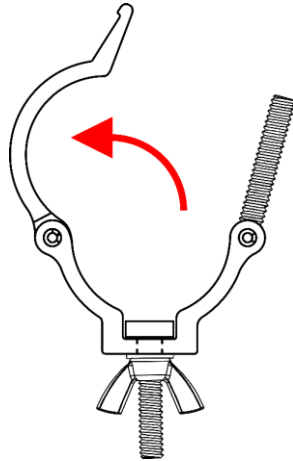

Fig. 04
- 01) Turn the **wing nut (02)** counterclockwise to remove it.
- 02) Open the **lock (09)**. See Fig. 04.